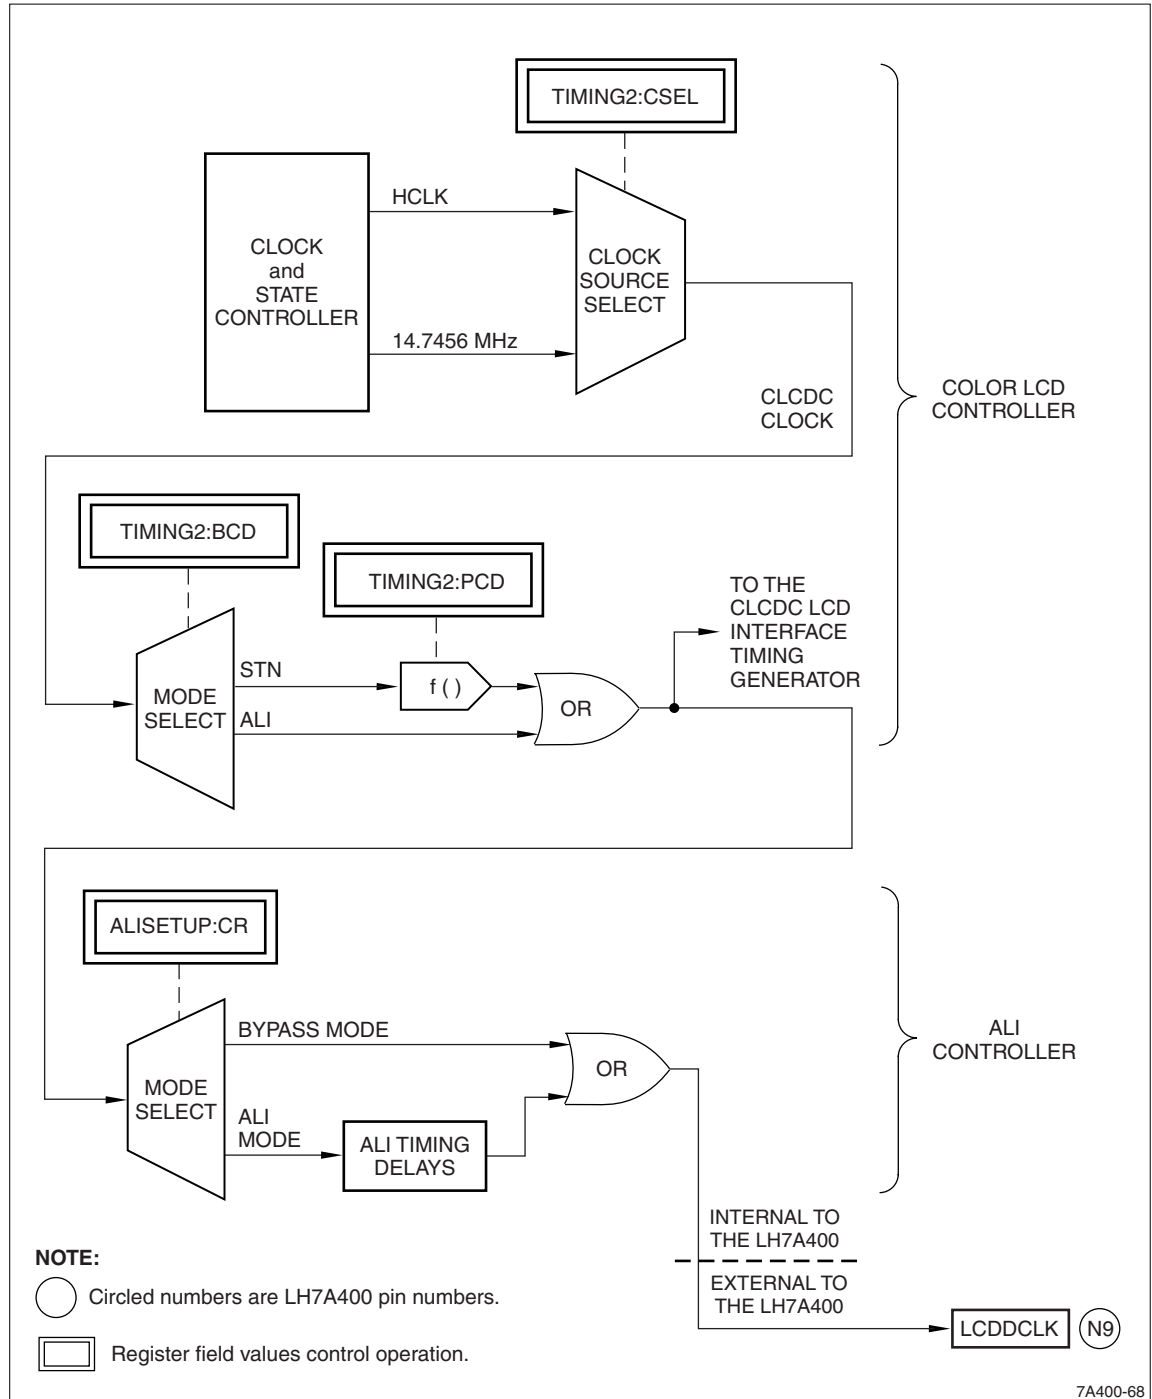

Figure 10-5. LCDDCLK Clock Generation
The CLCDC and the ALI are driven by a common clock which can be generated from either HCLK or the 14.7456 MHz clock source. Figure 10-5 summarizes the LH7A400 CLCDC clock generation.
- Program the CLCDC to scale the internal clock signal routed to the ALI from the CLCDC to a frequency appropriate for the AD-TFT or HR-TFT panel being connected. The ALI will modify this signal's timing but not its frequency. See Section 10.1.7 and Figure 10-5 for additional information regarding the clock frequency setup.